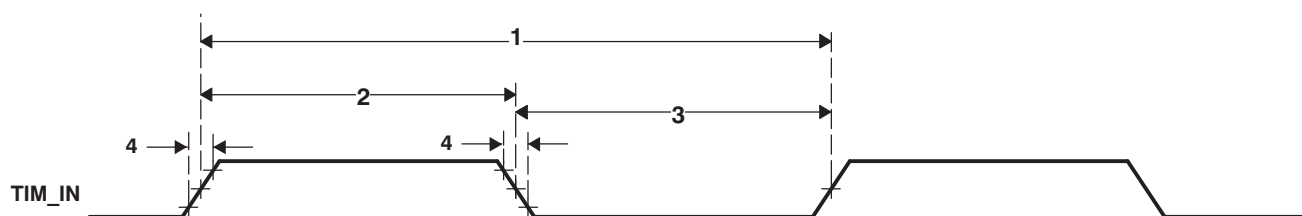

Figure 6-54. Timer Input Timing
Table 6-83. Timing Requirements for Timer Input^{(1) (2)} (see Figure 6-54)